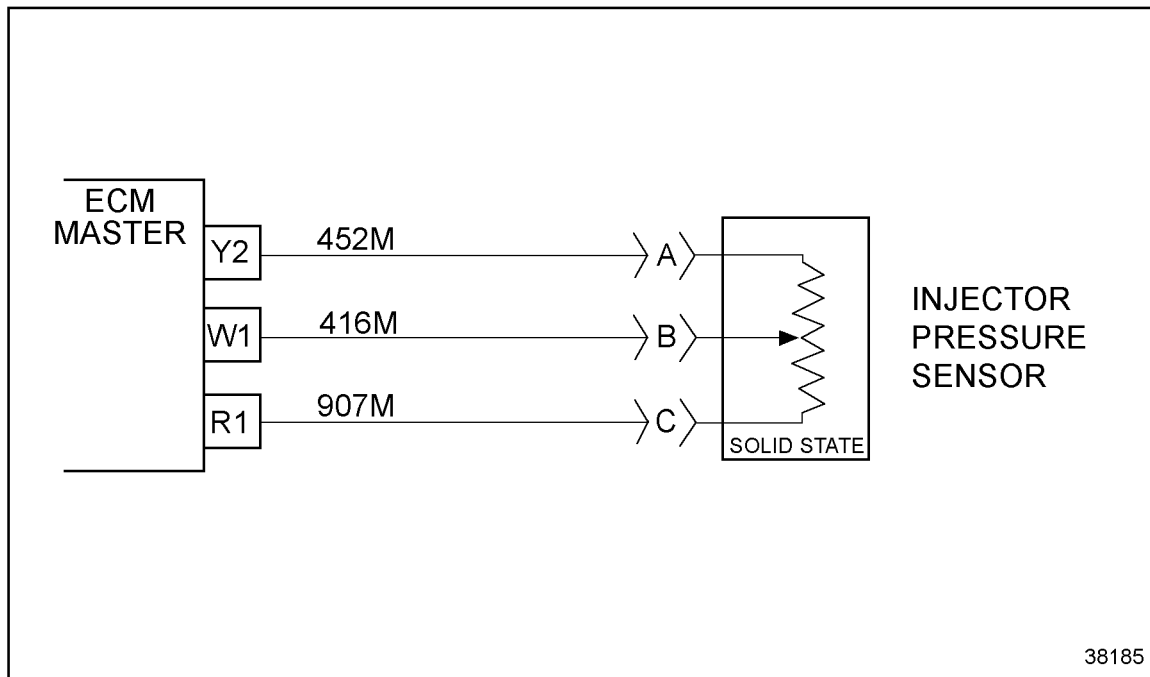

Figure 81-3 **Injector Pressure Sensor**
3. Measure resistance between cavities Y2 and R1 of the 30-pin connector. See Figure 81-3.